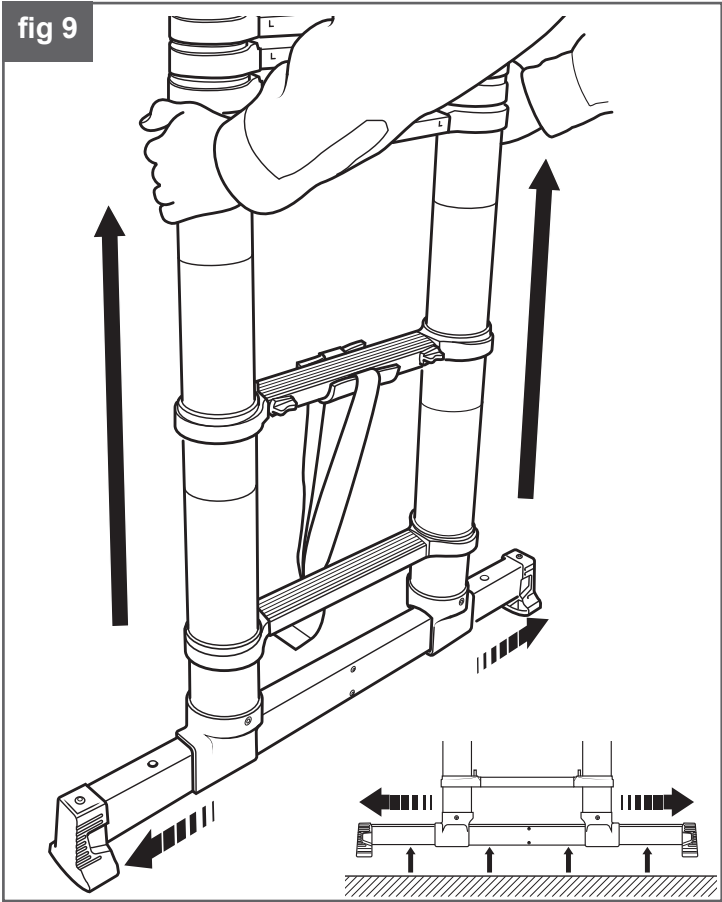

fig 10
- fig 10.** Place your foot on the bottom rung to hold the ladder in place and extend the first rung.